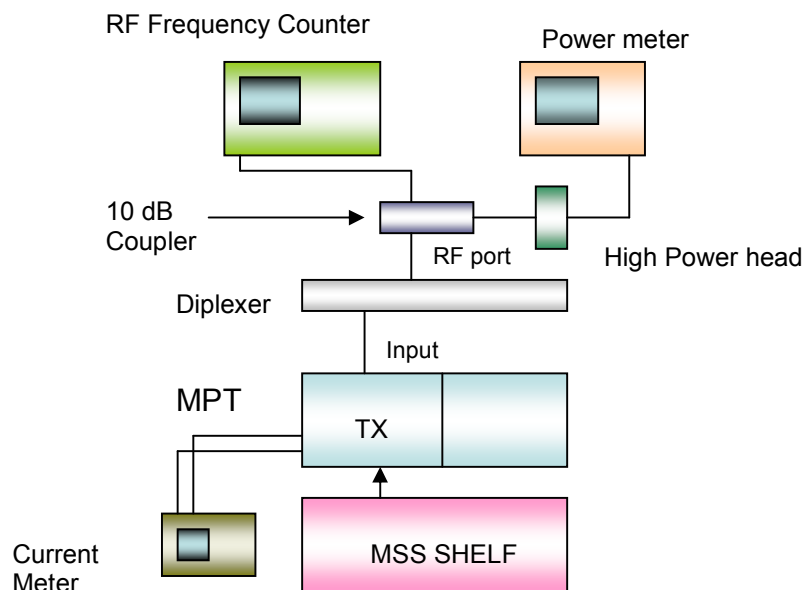

Figure 8 Battery Range Test setup
- Connect as shown in figure 8.